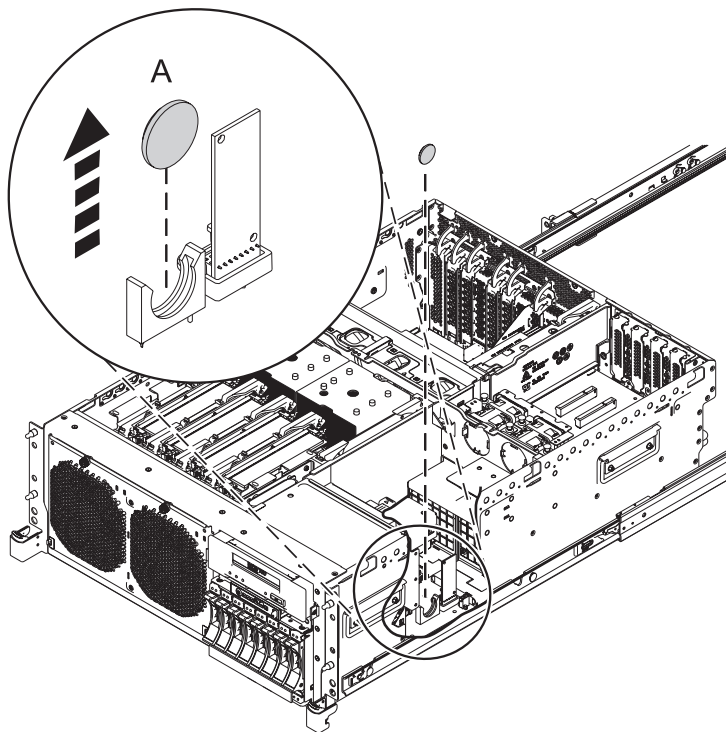

Figure 2. Removing the time-of-day battery
Attention: When removing the battery, do not use a metallic tool to disengage it from its slot. Remove the time-of-day battery (A) from the system backplane, being careful to observe the polarity (+/-) of the battery. See Figure 2.